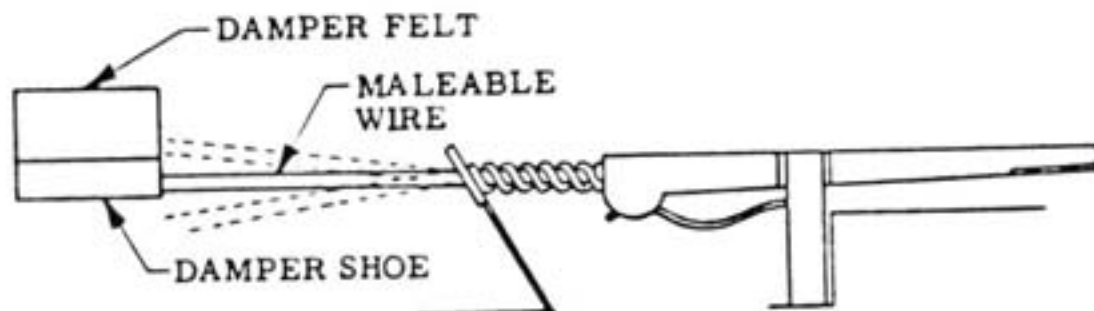

FIGURE 14
7. The new Bridle Straps are slightly shorter than the old, resulting in a lower rest position of the Damper Felts. Adjust these upward to suit by bending the Maleable Wire Damper Arm (Figure 14).